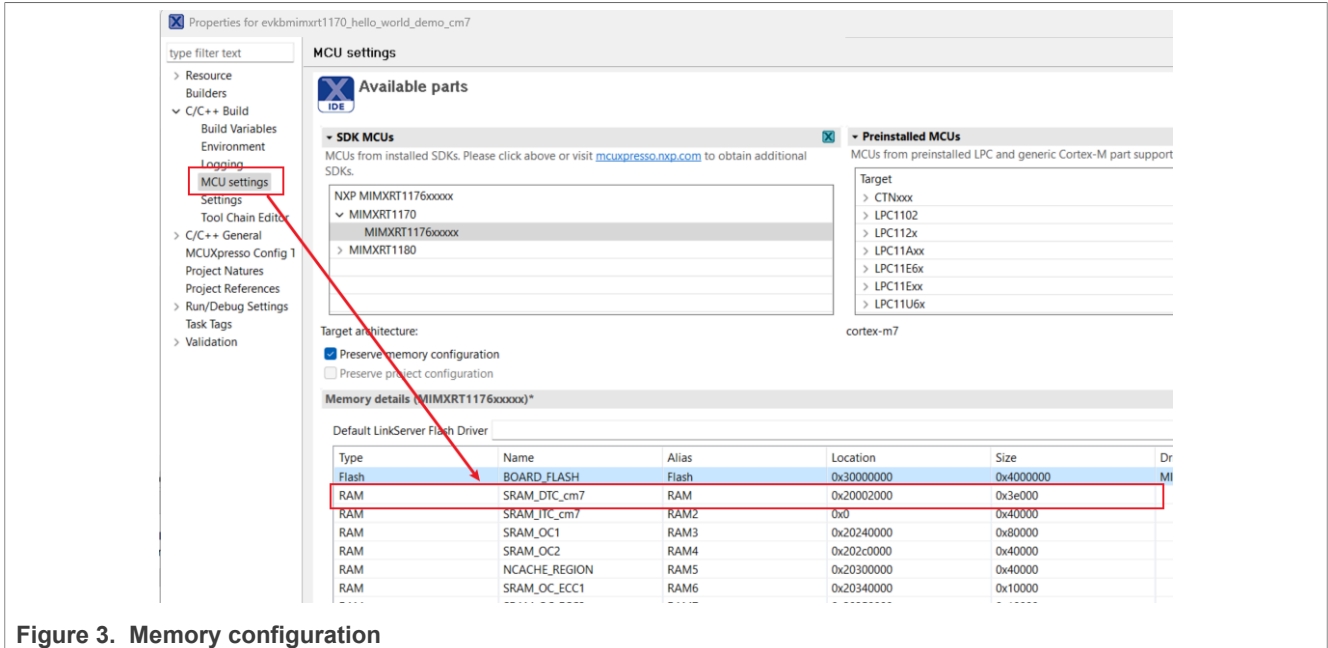

Figure 3. Memory configuration
2. Modify the RAM information in the **MCU settings** tab, as shown in Figure 3.